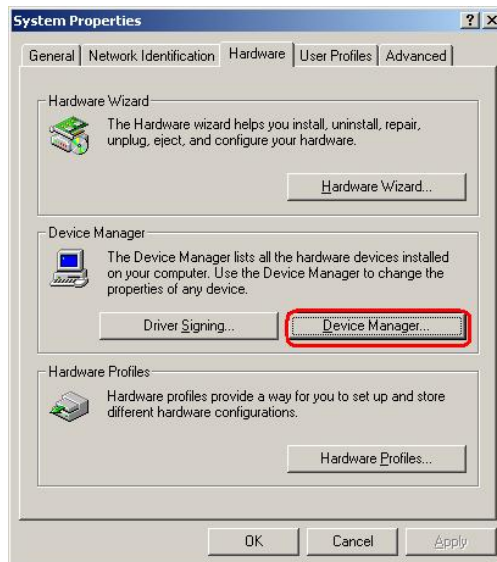

Figure 6-14: Double Click the Device Manager Tab
Step 3: Double click the **Device Manager** tab (Figure 6-14).